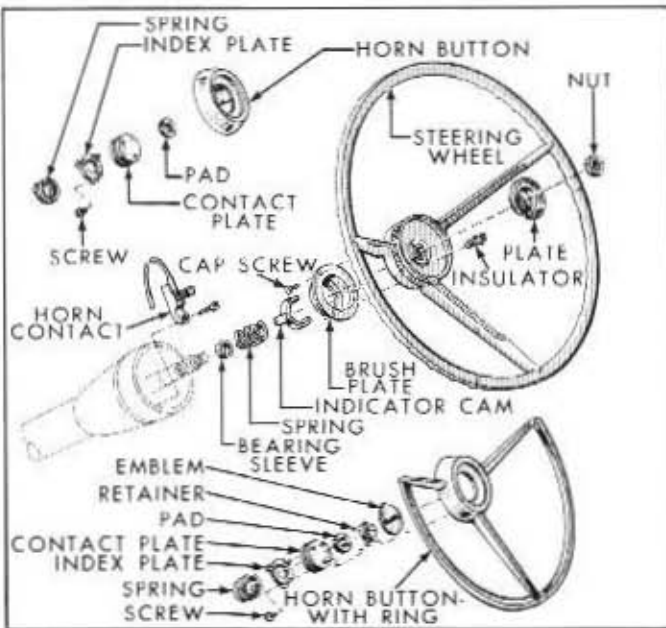

Fig. 3B-5—Steering Wheel, Horn, and Related Parts—(60C-1213)
2. Remove the nut from the end of the steering shaft. Remove the steering wheel from the shaft with Tool 3600-AA or 3826. See figure 3B-6.